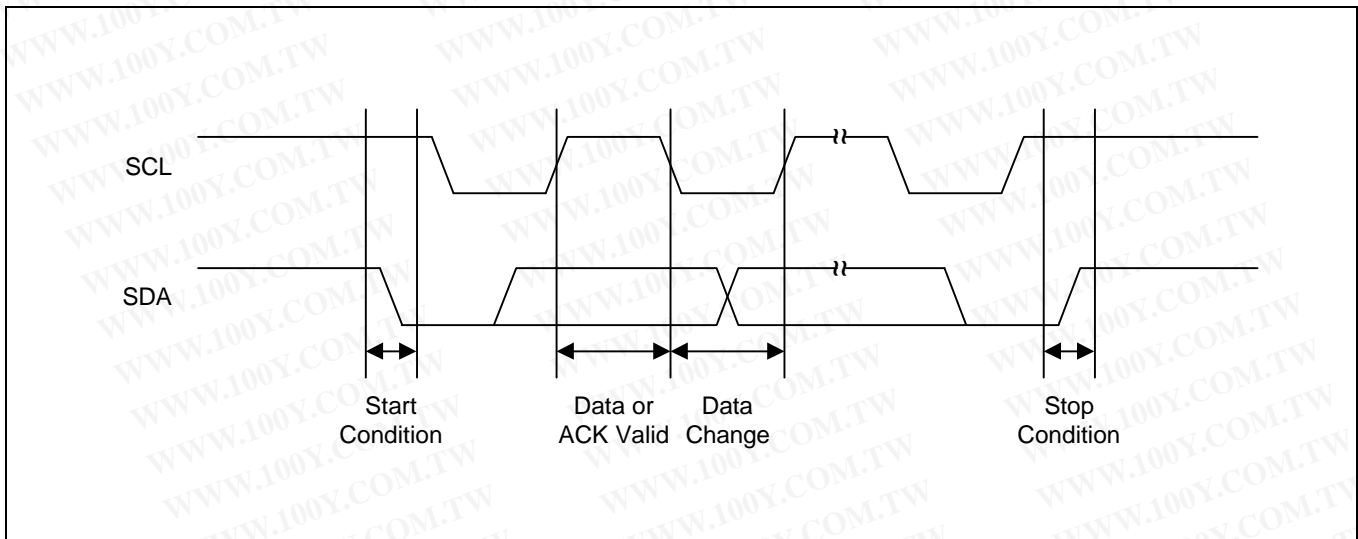

Figure 5-7. Data Transmission Sequence
- **Stop condition:** A stop condition is initiated by a Low-to-High transition of the SDA line while SCL remains in High level. All bus operations must be completed by a stop condition (see Figure 5-7).